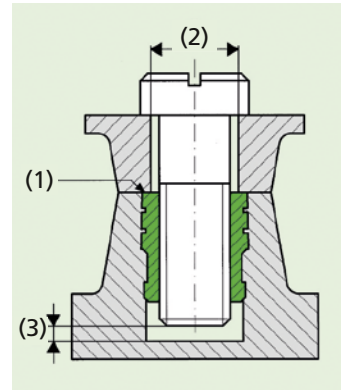

Fig. 16
The part requiring fastening should be flush with the threaded insert, see (1, fig. 16). For this reason the **bore-hole (2) should be closely dimensioned and not countersunk**. The Mubux® press-in flush into the formed part (1).